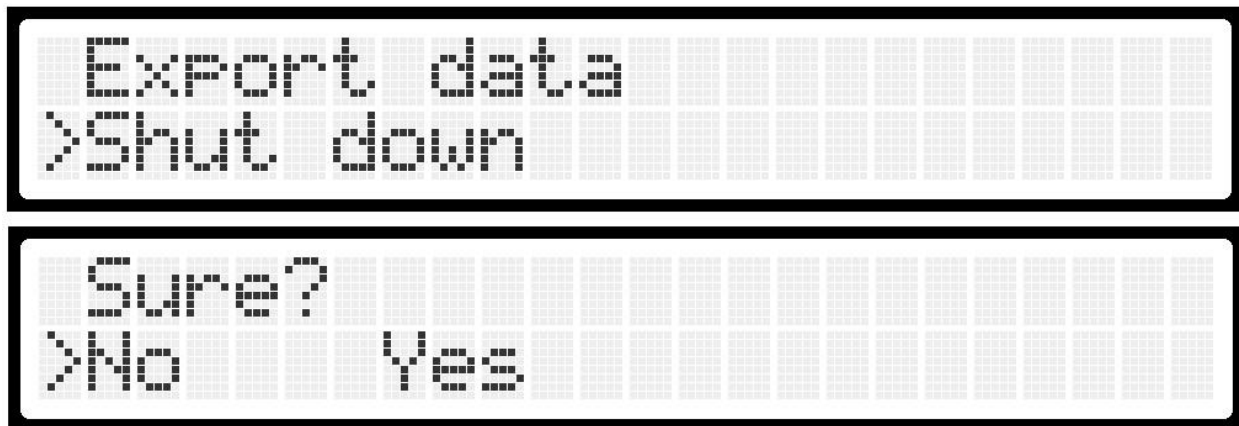

Figure 11: Device shutdown menu
- Select "Yes" to confirm and shut down the device (Figure 11).